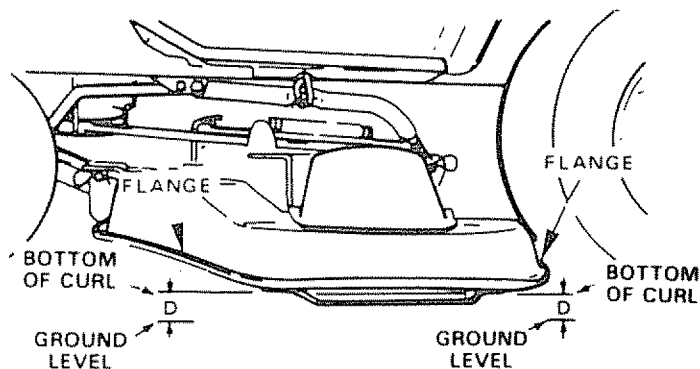

FIGURE 36
- To obtain the best cutting results, your mower housing should be adjusted so the front and rear flange distance "D" (Fig. 36) is 13 mm (1/2") lower in front when the mower is positioned in the highest cutting position.